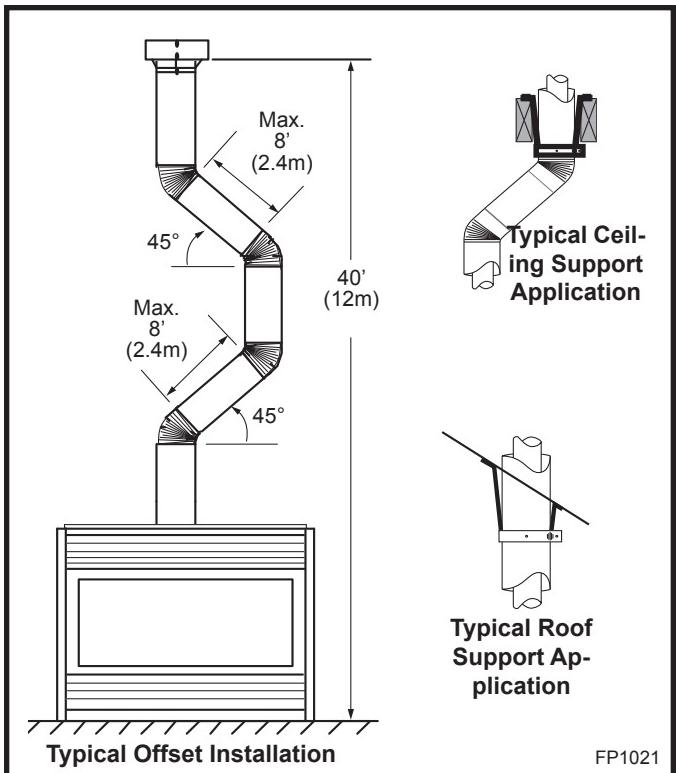

Fig. 36 Typical vertical roof applications.
4. Two sets of 45° elbows offsets within these vertical installations. From 0 to a maximum of 8' (2.4 m) of vent pipe can be used between elbows. (Fig. 36)
5. 7DVCS must be used to support offsets. (Fig. 36) This application will require that you first determine the roof pitch and use the appropriate 7DVSXV (A, B or F). (Refer to Venting Components List, Page 23)